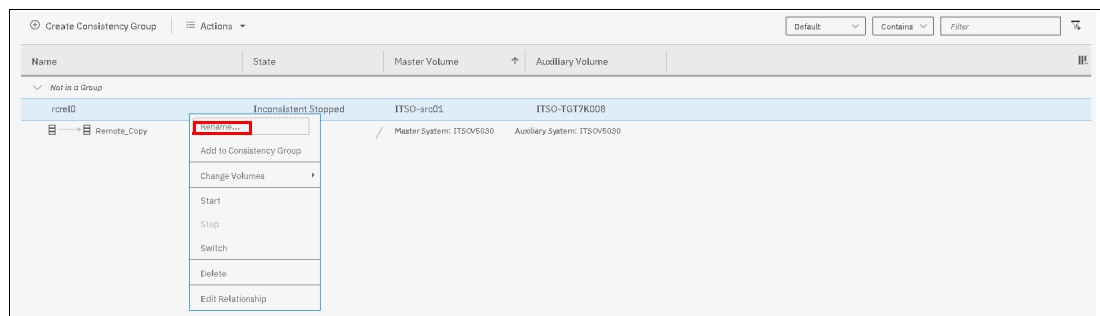

Figure 10-101 Rename remote copy relationship action
2. In the table, select the remote copy relationship mapping to rename and right-click **Rename**, as shown in Figure 10-101.